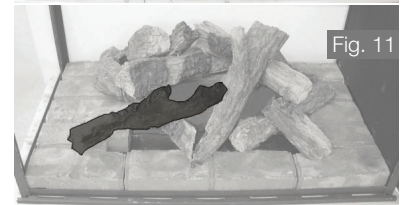

Fig. 11
- Place log #11 onto the pin located in log #1 and let it rest on the right end hearth pad (**FIG.11**).